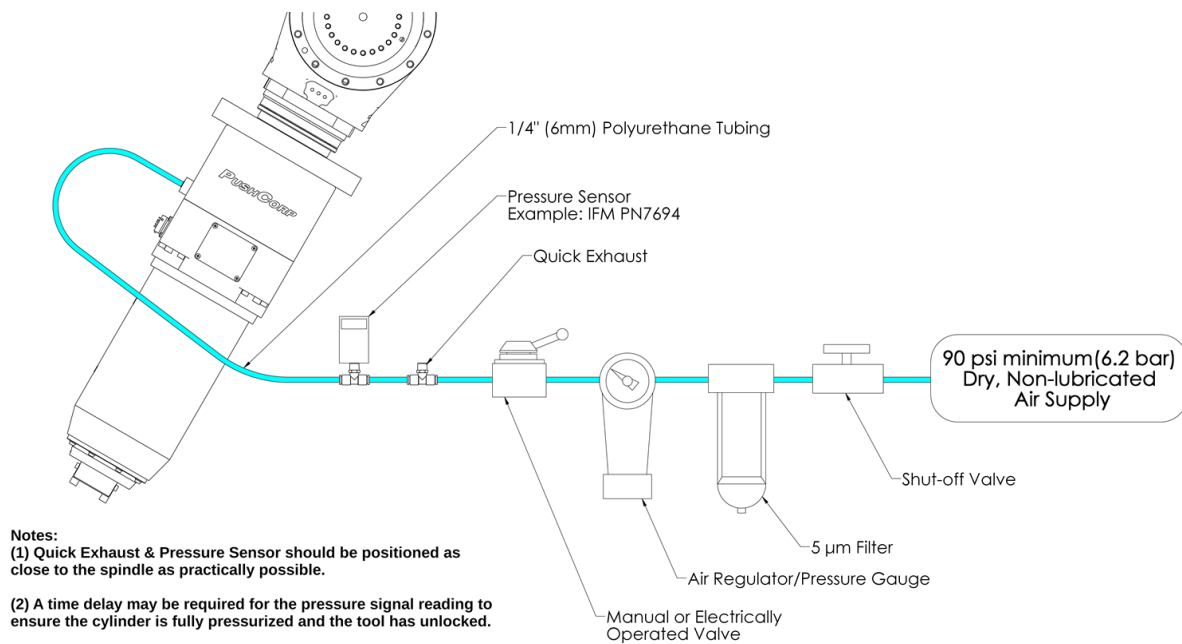

FIGURE 7: PNEUMATIC CONNECTIONS
The pneumatic supply system should be configured as shown in Figure 7. A manual or electrically operated valve may be used to energize the STC1515 for toolholder release, but the valve must exhaust **ALL** line pressure when unenergized. An electrically operated pneumatic valve is normally used in an automated work cell. PushCorp highly recommends the installation of a Pressure Switch in the Supply Line to the STC1515. This switch should not allow the STC1515 to start if there is any pressure in the Supply Line. Pressure in the line will cause internal components to come into contact. This will either cause the motor not to spin, or cause very high internal friction, eventually friction welding components together.
5. Using a pressure sensor, such as IFM PN7694, verify that you have achieved at least 90 psi, again not to exceed 100 psi (refer to Figure 7 for connection set up)